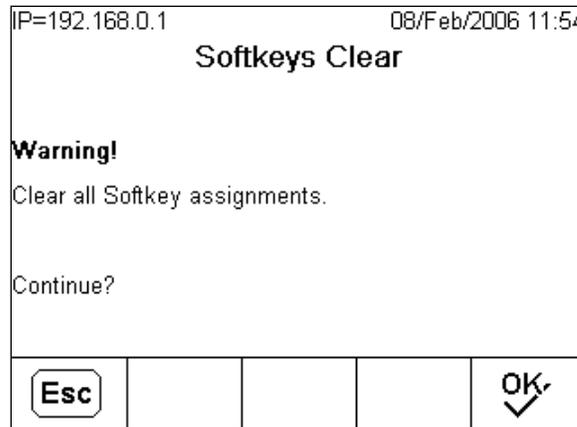

Figure E-6: Clear Softkeys Screen
- C** **Clear** Opens the screen shown in Figure E-6, allowing user to clear all softkey assignments except the Recall Information and Setup softkeys in positions 9 and 10
To clear all softkey assignments except INFORMATION RECALL  and SETUP , press the CLEAR softkey . A screen (Figure E-6) displays, asking for verification to clear all softkeys.